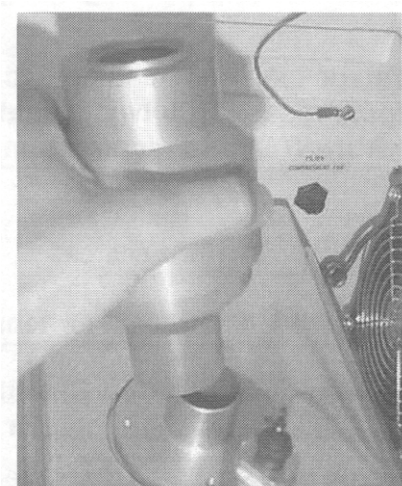

Figure Z.4.0.2
- a. Remove the sample inlet head by pulling straight upward. Unlatch and open the sampler's top cover. Pull straight upward to remove the WINS impactor as shown in Figure Z.4.0.2.